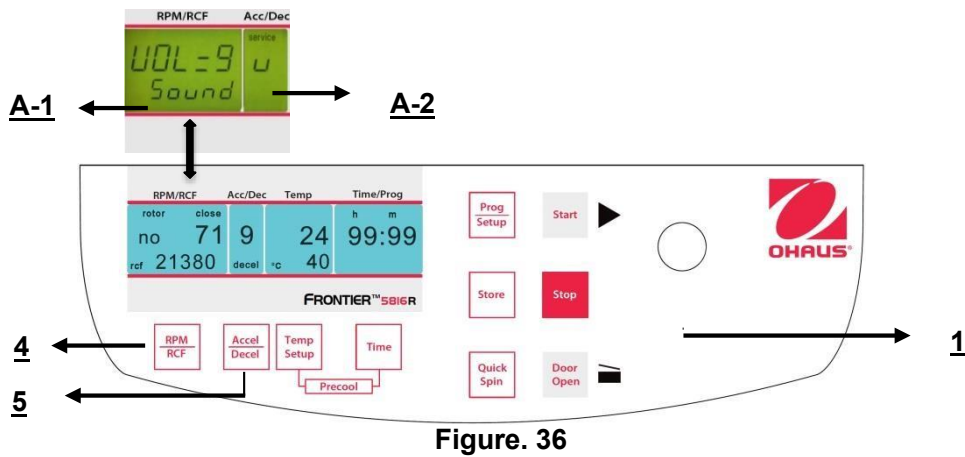

Figure. 36
Proceed as described under point 4.1.1 to enter this program mode and then press the key **"Accel/Decel"** (5). In the display **"Acc/Dec"** (A-2) the word **"Service"** flashes. Now select the letter **"U"** with the adjusting knob (1). As a result, in the display **"RPM | RCF"** (A-1) the words **"Vol=0- 9/Sound"** appear. After pressing the key **"RPM | RCF"** (4), you can adjust the desired volume between 0 (low) and 9 (loud) with the adjusting knob (1) (See figure 36).